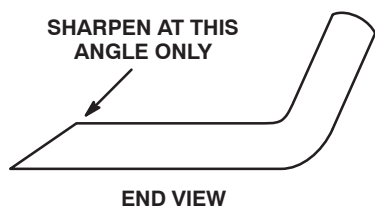

Figure 28
3. Examine the cutting edges of all blades. Sharpen the cutting edges if they are dull or nicked. Sharpen only the top side of the cutting edge and maintain the original cutting angle to ensure sharpness (Fig. 28). The blade will remain balanced if the same amount of metal is removed from both cutting edges.